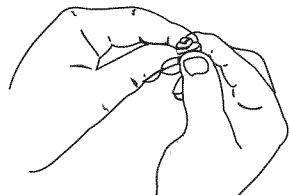

Fig. 28
- Squeeze the filter to spread and remove excess oil (Fig. 28).